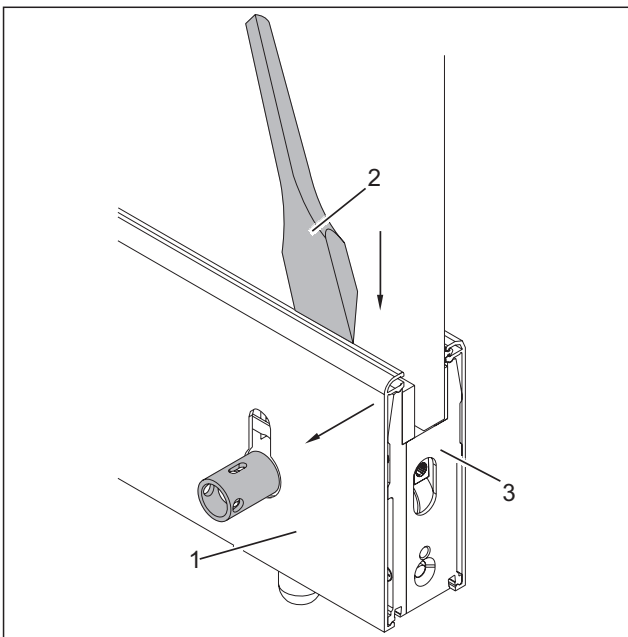

Fig. 28 Removing the cover profile
5. Remove the cover profile (Fig. 28/1) from the door rail (Fig. 28/3) with a glazing shovel (Fig. 28/2).